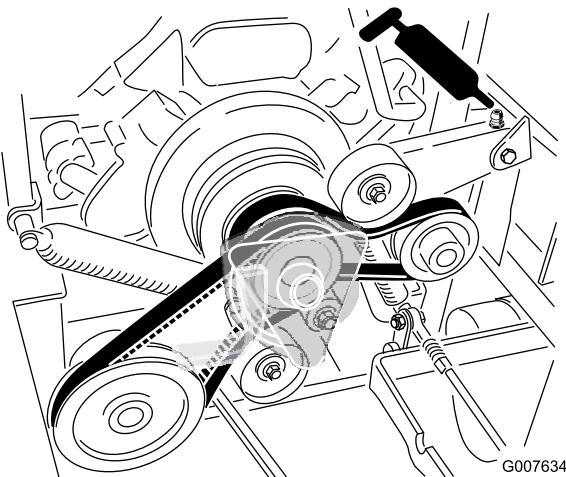

Figure 7
5. Check the grease for the pump belt idler arm (Figure 7).